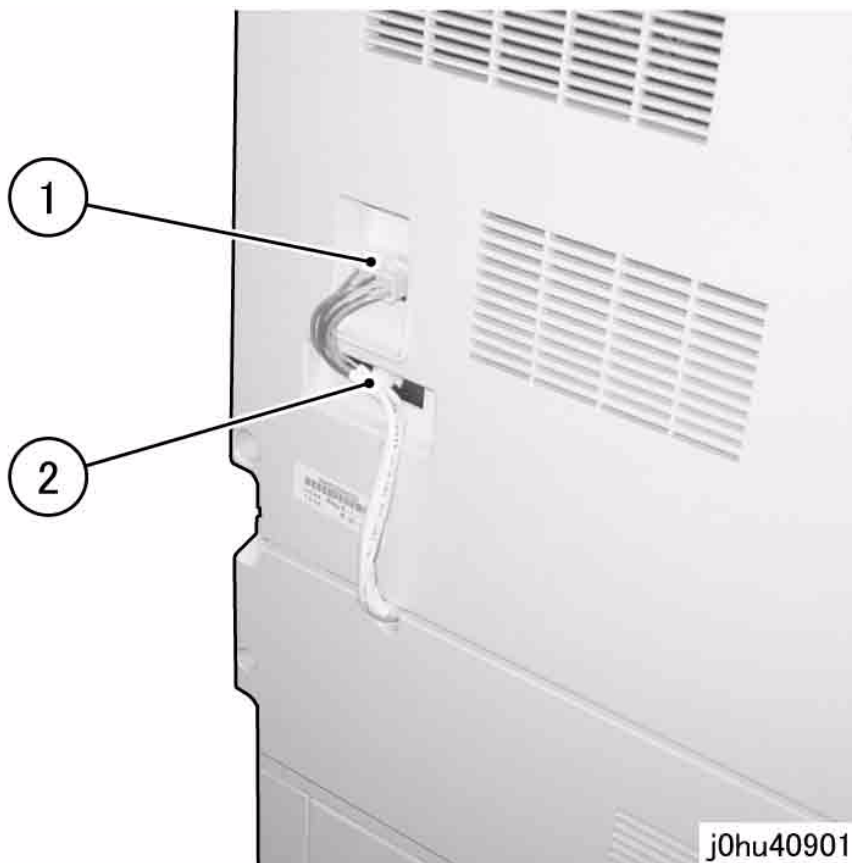

Figure 1 Disconnect Cable Connector
1. Disconnect the connector (Figure 1).